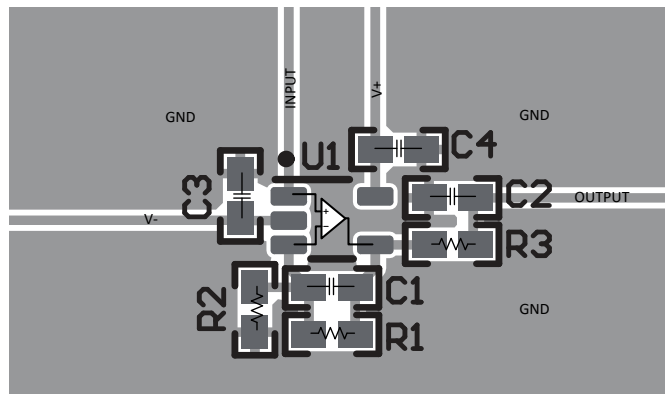

图 8-4. Operational Amplifier Board Layout for Non-inverting Configuration - SC70 (DCK) Package
- Place the external components as close to the device as possible. As shown in Figure 8-4, keeping RF and RG close to the inverting input minimizes parasitic capacitance.